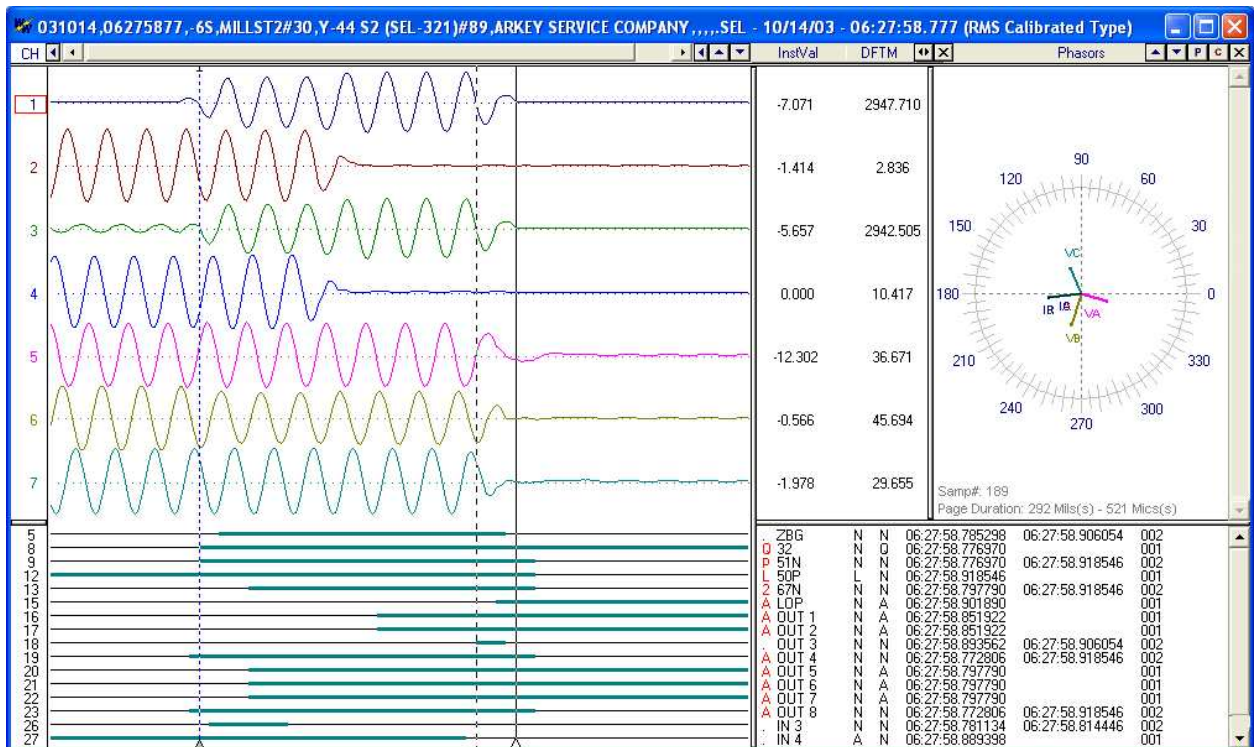

Figure 1.31 Append Waveform Files: Discard Common Times
- Discard Common Times: Any common times found in the marked files will be deleted from the older file. Refer to Figure 1.31.